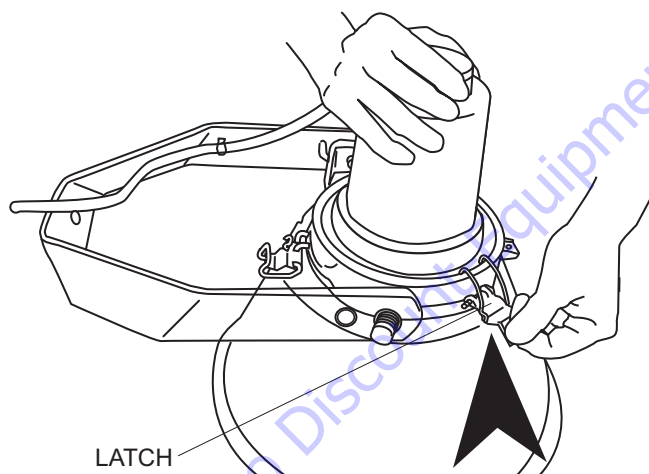

Figure 8. Securing Latch
3. Tighten all three latches to secure reflex mirror to the socket. See Figure 8.